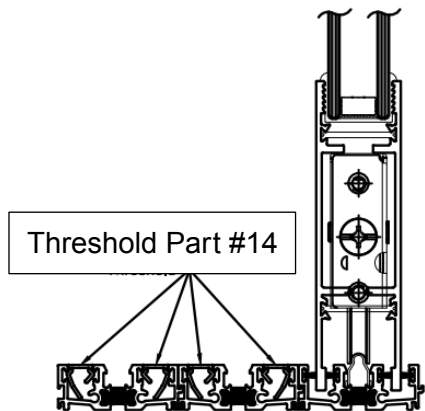
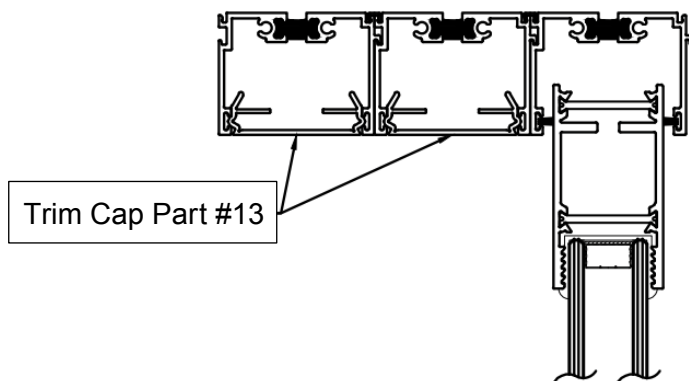

FIGURE 19A
FIGURE 19B
24. Install thresholds (Part #14) into the exterior and center sill tracks (Part #8) shown in figure 19a and the trim cap (Part #13) of the same length into the exterior and center head tracks (Part #6) shown in figure 19b.